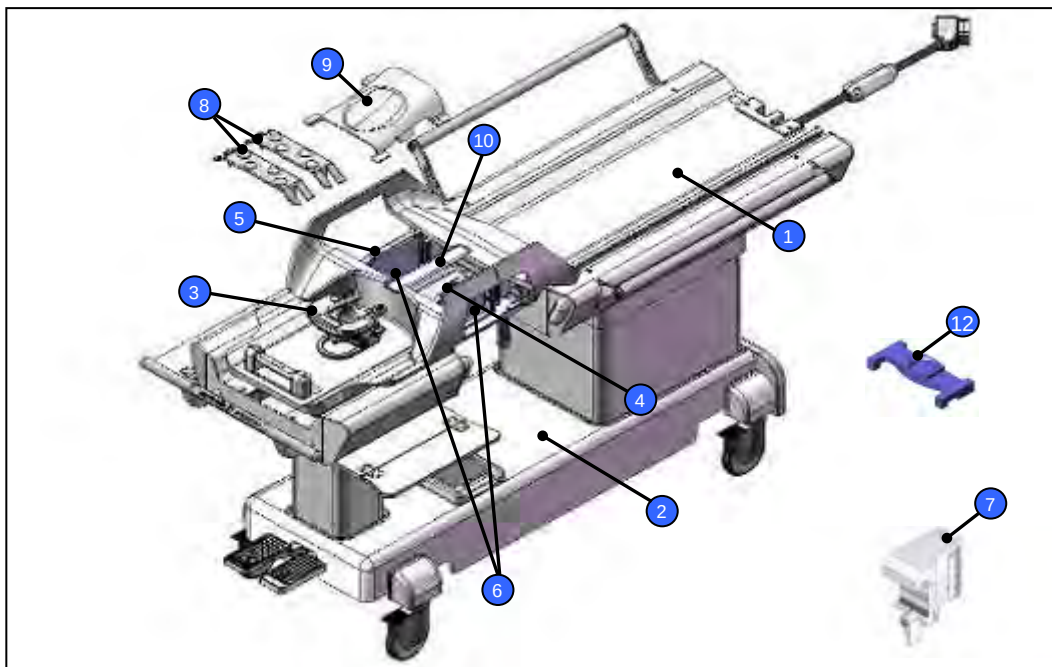

Figure 2
*Shown in Figure 2 with VG 1.5T 16W Cable tray installed.